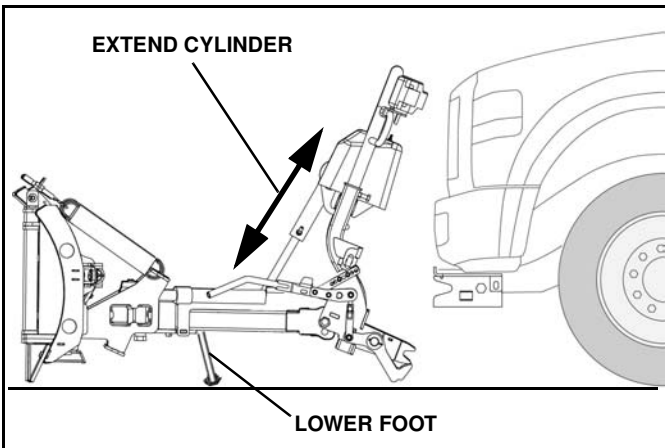

Figure 1-30
2. Using Down Pressure™, extend the cylinder (lower the plow) until the lift cylinder is fully extended. Lower the foot. (See Figure 1-30).